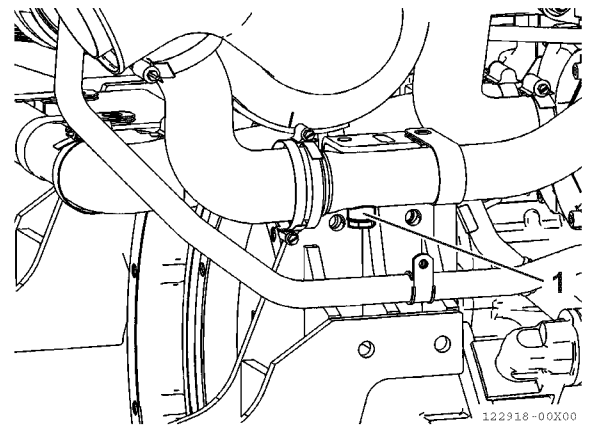

Figure 12
- Remove the plug (Figure 12, (1)) and, during assembly, tighten it to the specified torque.